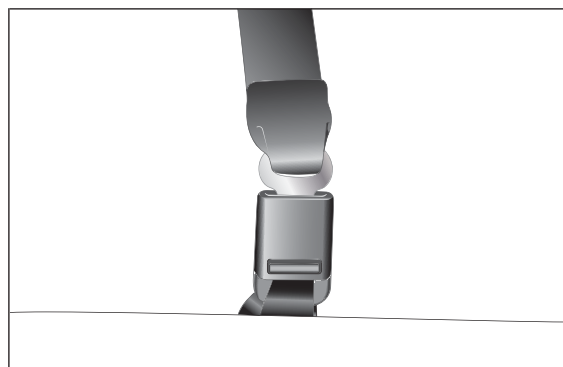

fig. 80
**The rear central seat belt (for versions where provided) is provided with a service buckle fig. 80. Do not use the seat belt with the service buckle not fastened. In this case there is a high risk of injury or death in the event of an accident. Before using the belt, always make sure that the service buckle is correctly fastened.**